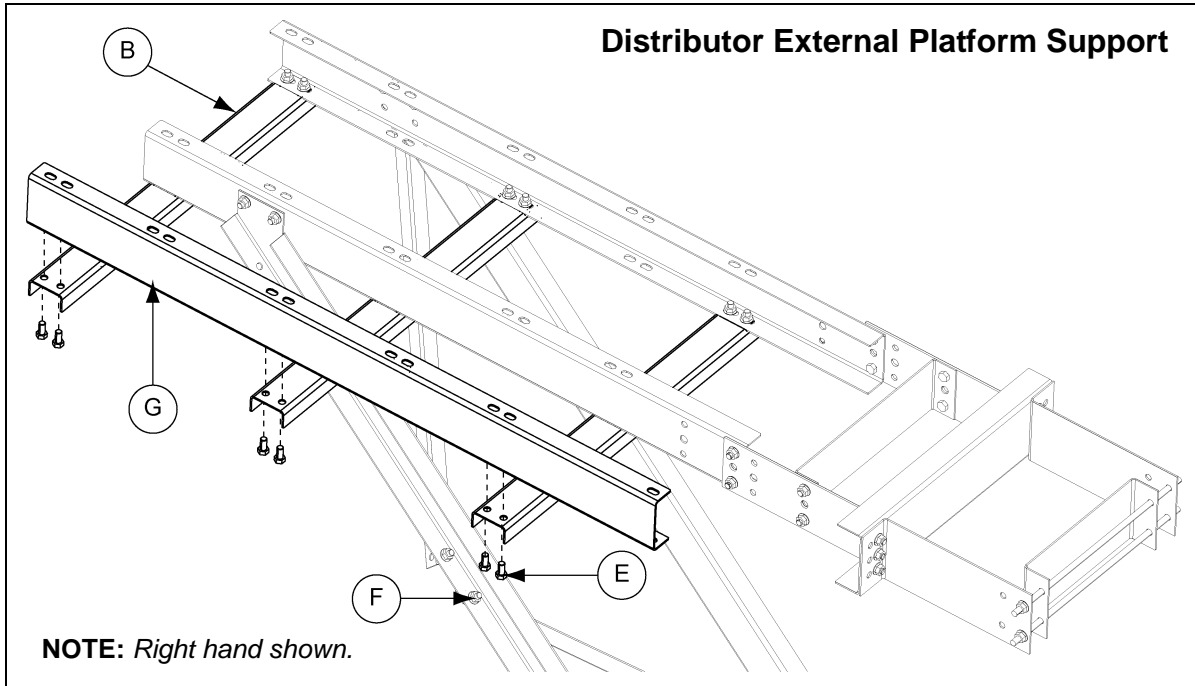

Figure 10F Distributor External Platform Support
3. Assemble the external platform support (DSP1648EPS) to the end of the three (3) cross supports using six (6) 1/2" x 1" bolts and nuts. (See Figure 10F on Page 78.)